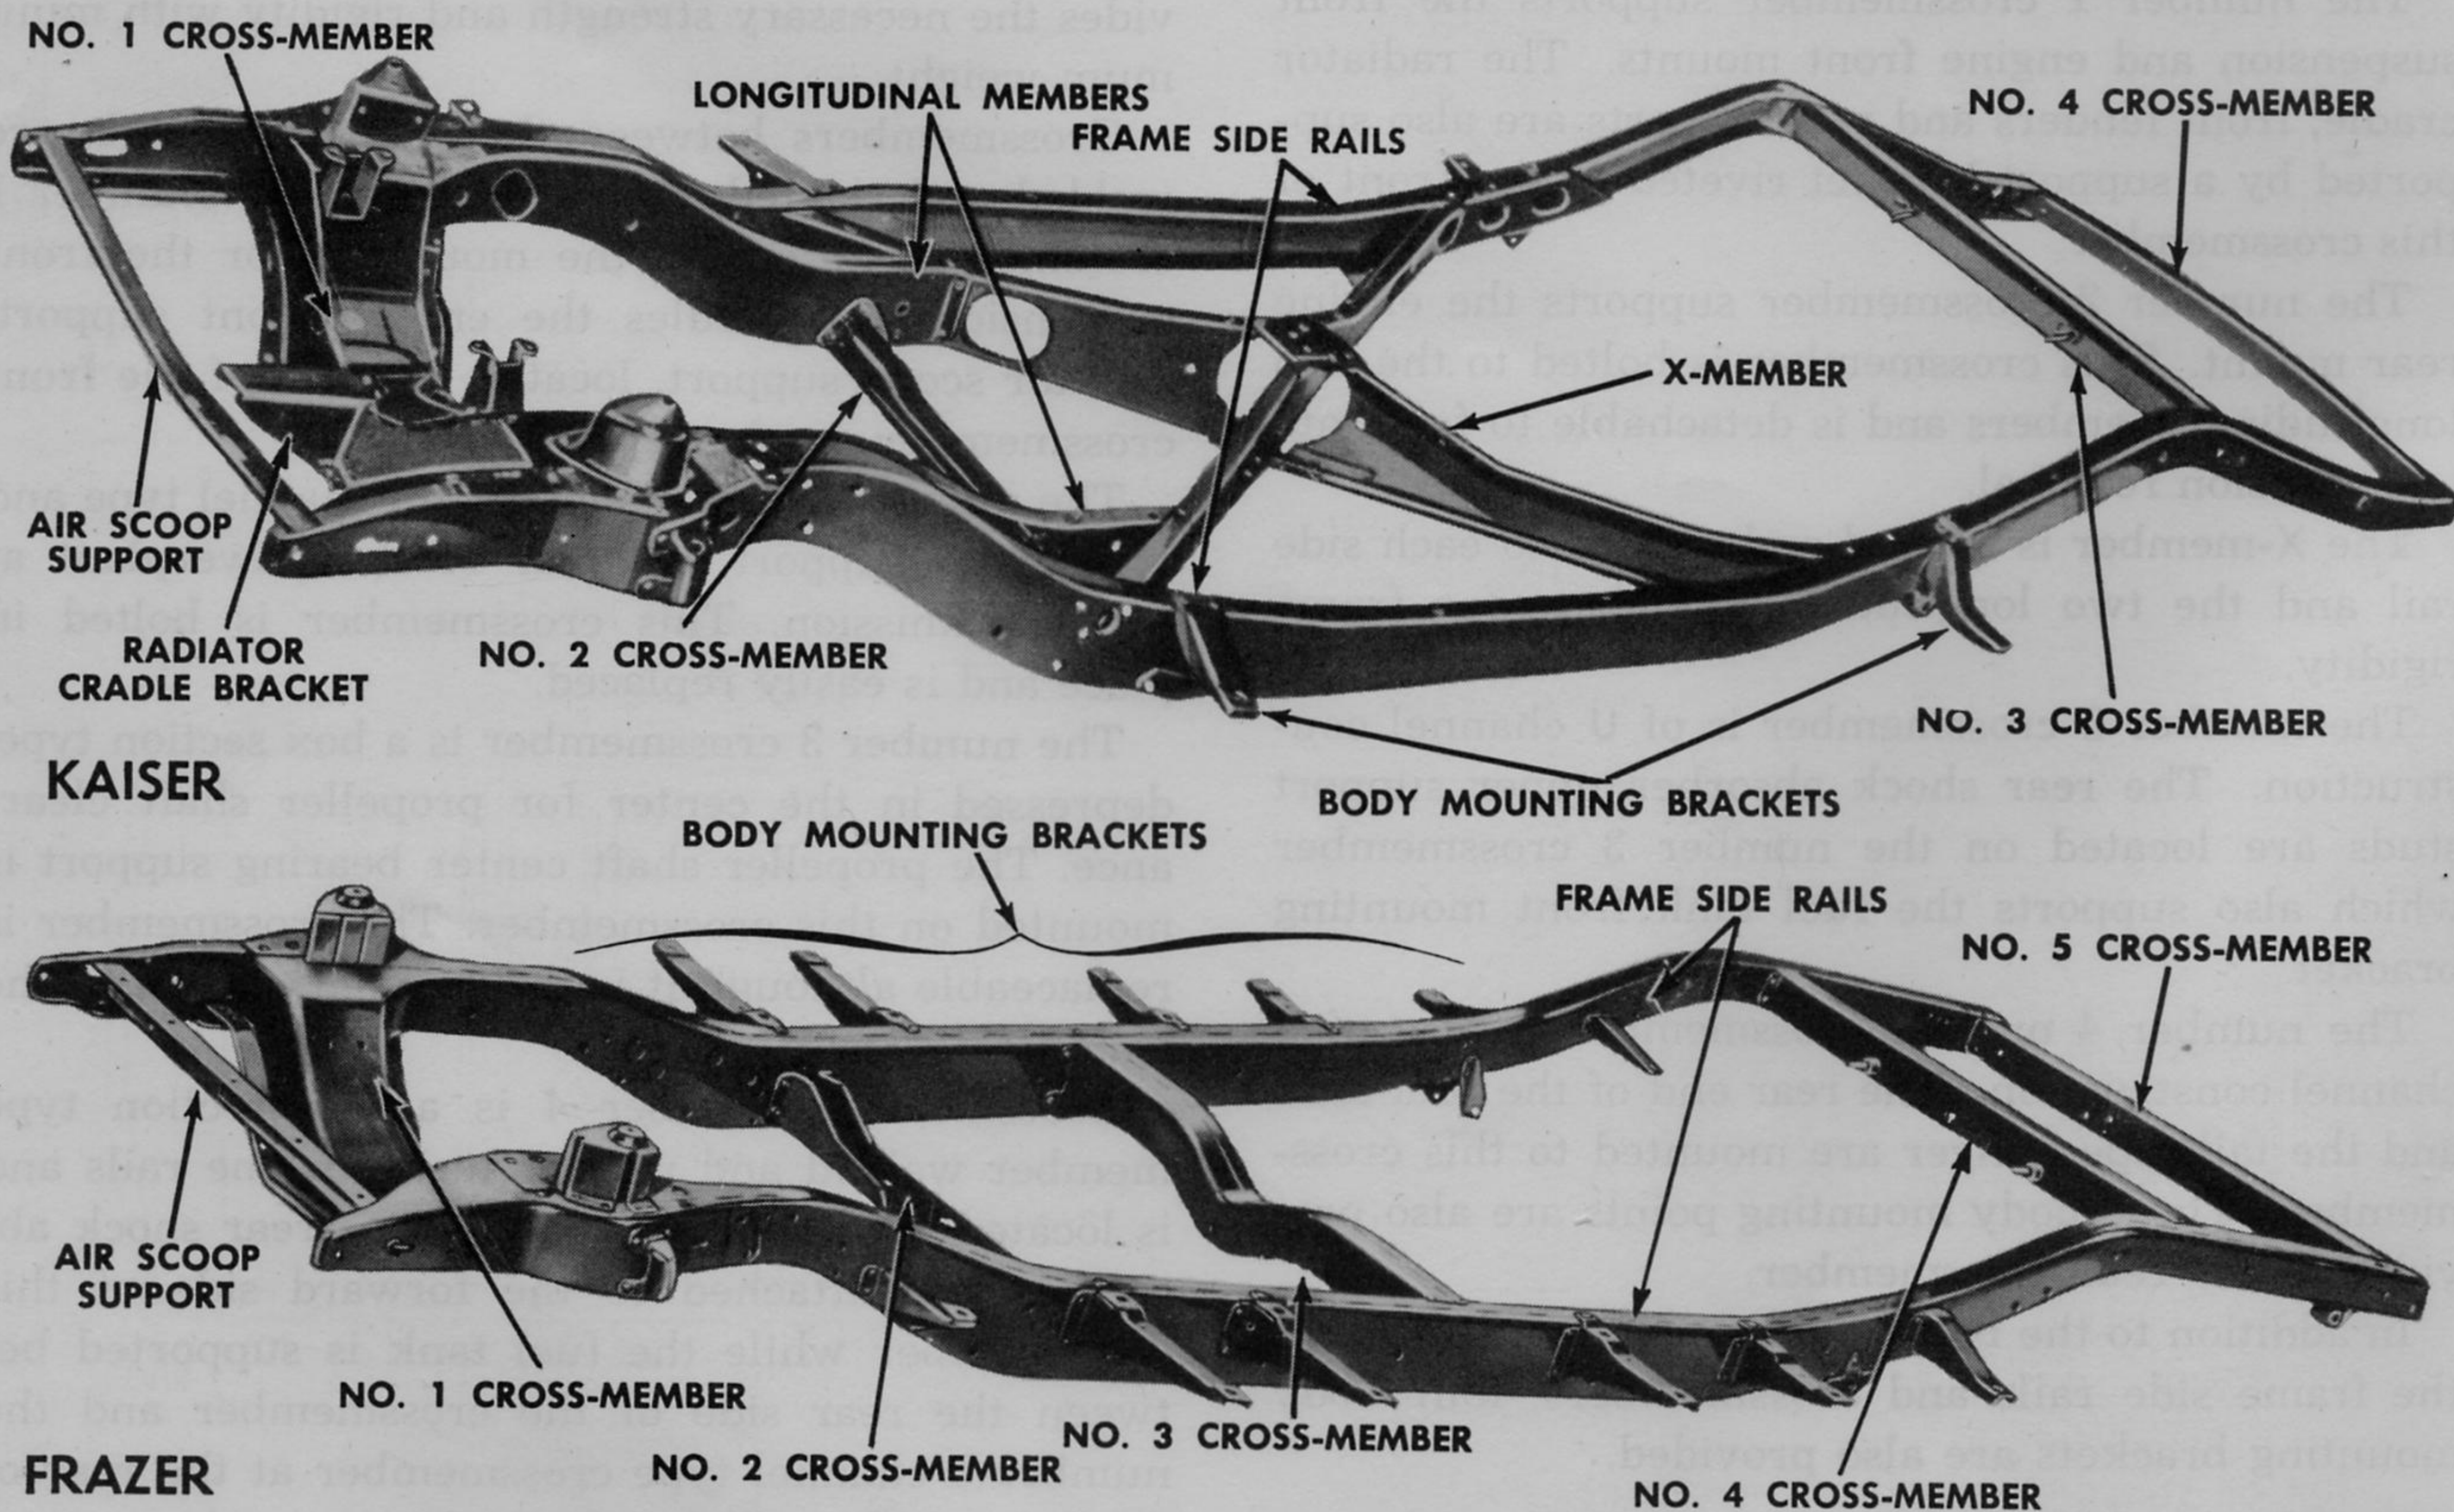

Fig. 323—Kaiser and Frazer Frames
a. FRAME FOR KAISER MODELS. The frame in the Kaiser models is of the channel type construction and has four crossmembers, an air scoop support, one X-member and two longitudinal members in addition to the frame side rails (Fig. 323). The double drop side rails provide a very low center of gravity and still maintain ample road clearance.
that of the Kaiser models in the type and location of the crossmembers, type of side rail construction and location of the body mounting brackets (Fig. 323).